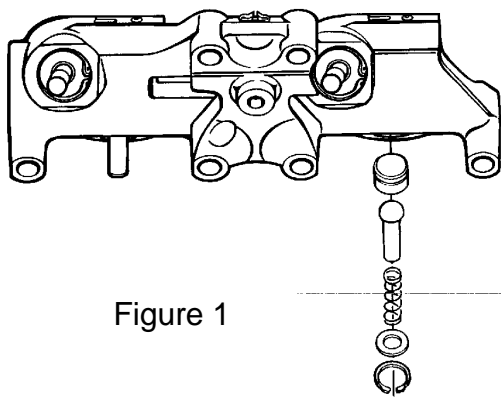
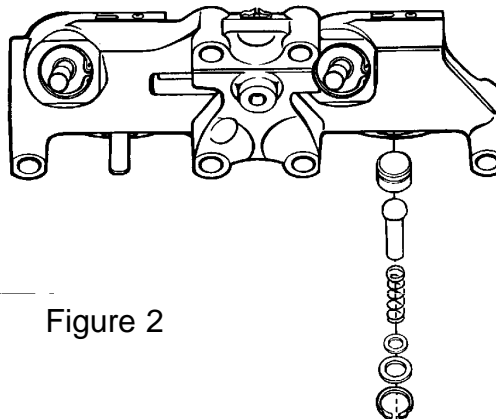

Figure 1
Figure 2
This upgrade requires the replacement of the existing single Master Piston Retaining Washer (Figure 1 below) with the new two-washer system (Figure 2 below). Refer to the 340 Series Installation Manual, Jacobs P/N 019950B (Rev. 12/97), when servicing the engine brake. This installation Manual is included in the Jake Brake Retarders Product Reference Guide, Caterpillar Manual Form RENR1370.
3. Reinstall the Master Piston Assemblies using the new two-washer retaining system, as shown in Figure 2.